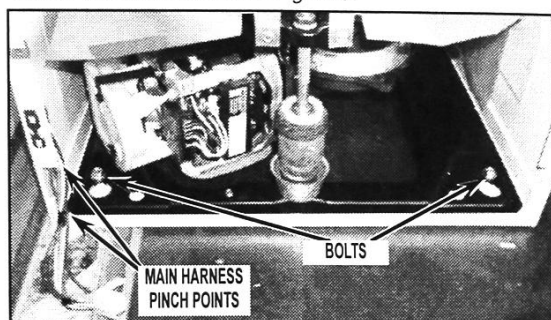
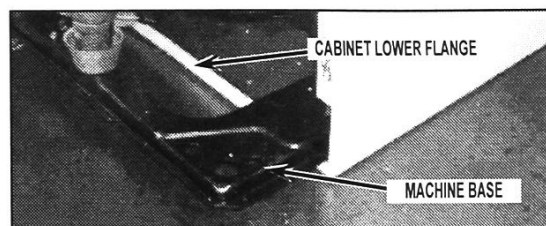

FIGURE 9
FIGURE 10
12. Remove the two (2) bolts securing the machine base to the washer cabinet as shown in *Figure 9*.
13. Remove the machine assembly from the cabinet by grabbing the front part of the tub ring and tilting the front of the assembly up slightly to clear the cabinet lower flange. Slide complete machine assembly forward from cabinet. See *Figure 10*. Use care not to pinch the Main Harness wires. See *Figure 9*.